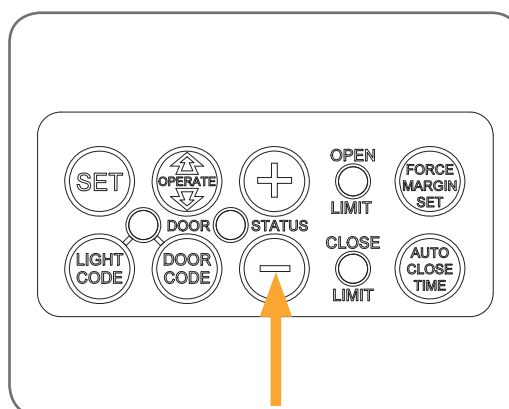

fig 23
- Press and hold the MINUS (-) button - the door will start closing (Fig. 23).